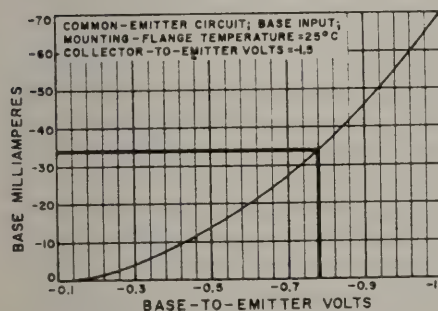

Fig. 3. Base characteristics of the 2N301.
0.78 volts and this on the base characteristic curve of Fig. 3, will cause a base current of 34 ma. The product of 34 ma x 0.78 volts is the input power, 26.5 mw.